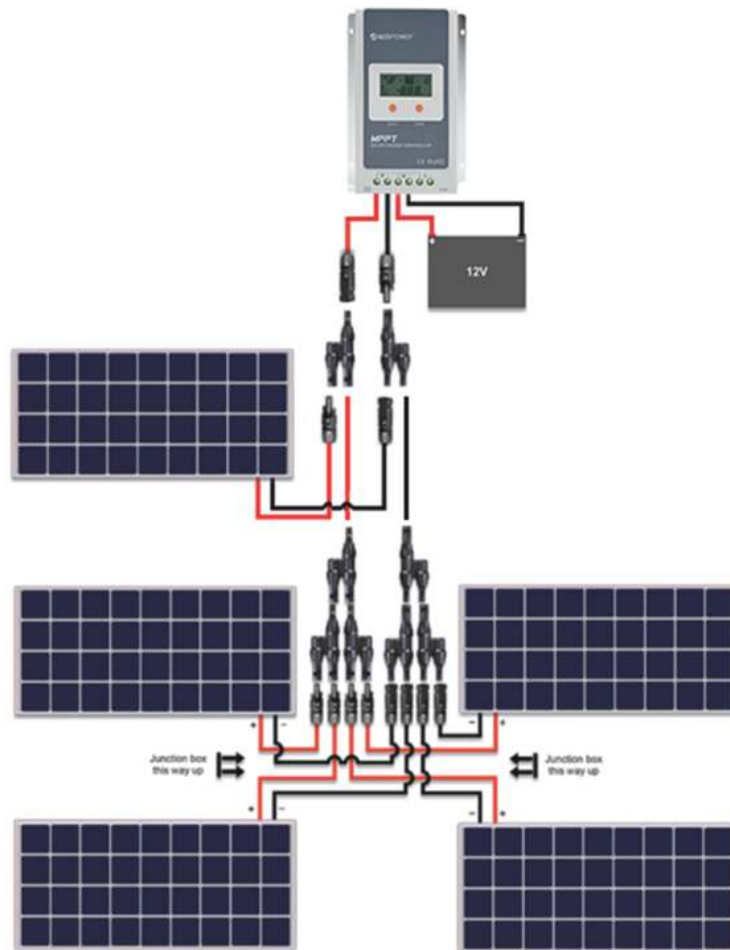

Figure 9 Five 100W Panels in parallel
Five solar panels is the maximum amount of panels that can be connected in parallel if they are adjacent to one another, without using extra cabling. Fig. 9 above shows the arrangement for connecting five solar panels in parallel. Remember that this arrangement is applicable if the five solar panels are to be mounted adjacent to one another. This connection requires four (4) pairs of MC4 Y- Branch Connectors. When one or multiple panels are mounted at different locations- that is, separated by a distance, the panels need to be extended with MC4 Extension Cables (sold separately).